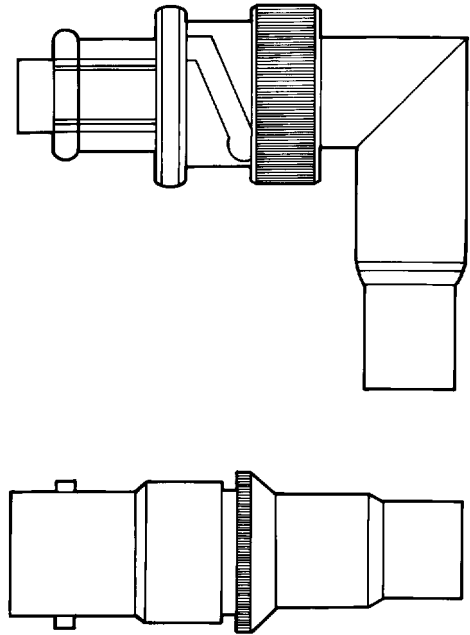

Figure 24. Typical SHV Series Connector 023024
57. **Series SHV Connectors.** These connectors are high voltage, bayonet coupled connectors (Figure 24).